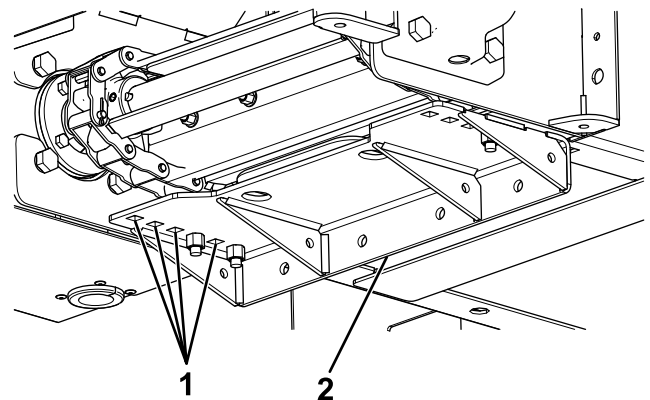

Figure 6
3. Move the slide stop to the desired position and secure it with the previously removed carriage bolts (Figure 6).